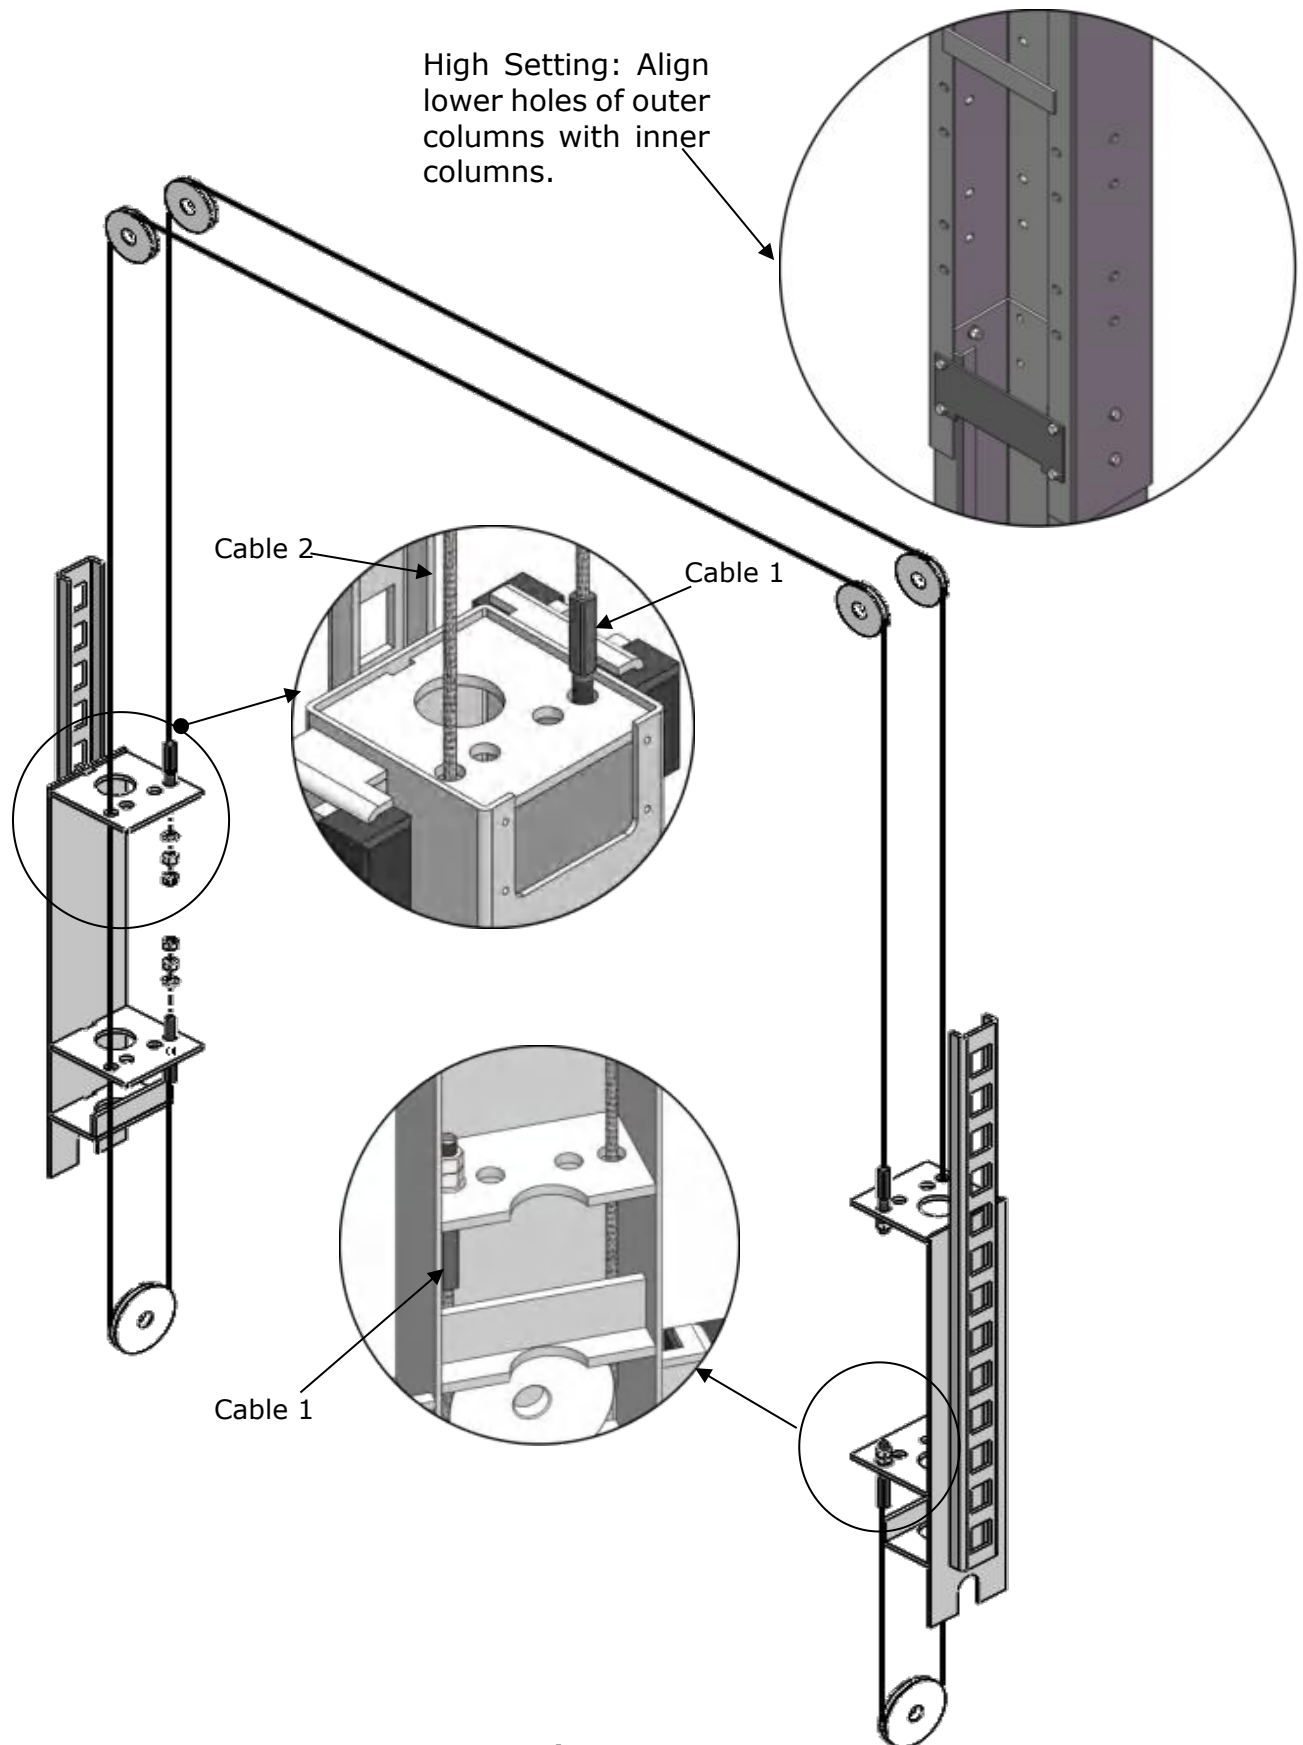

Fig. 29
1.2 Connecting sync cable for high setting. (See Fig. 29)